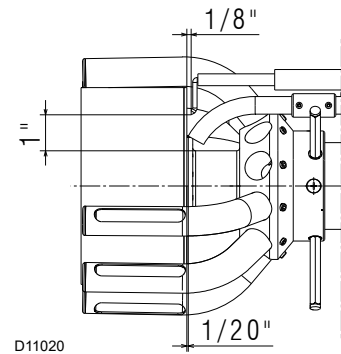

Fig. 14
To verify the correct position of the ignition electrode (Fig. 14), you need to separate the combustion head from the rest of the burner.
- Check the correct position of ignition electrode, as shown in Fig. 14.